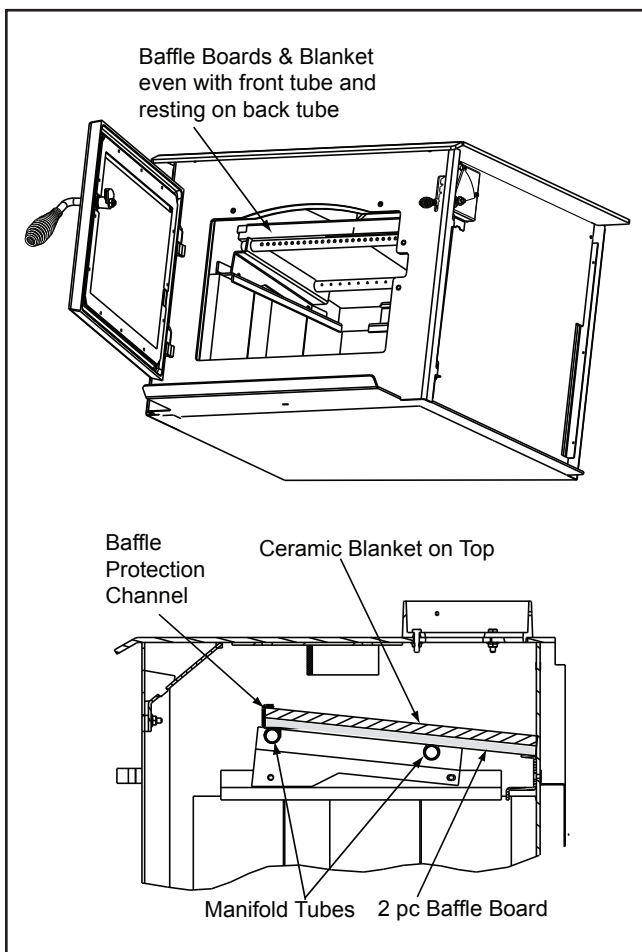

Figure 23.1
2. Remove the baffle protection channel by rotating it down from the front tube. **Figure 23.1.**